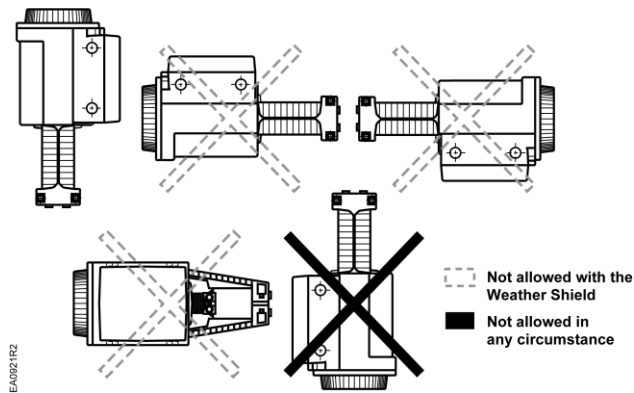

Figure 9. Mounting Positions.
- The vertical position is the recommended position for mounting. Figure 9 shows the acceptable mounting positions.